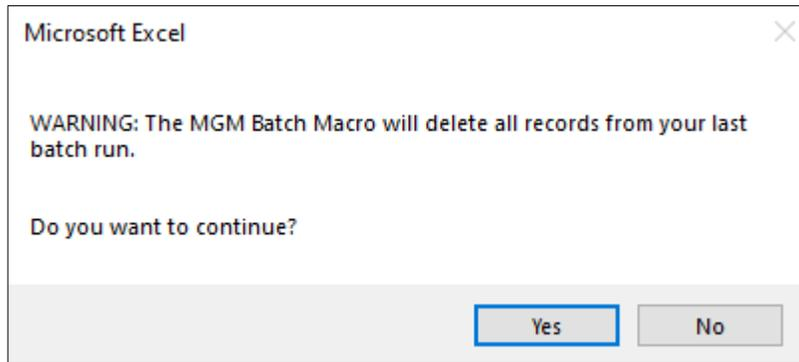
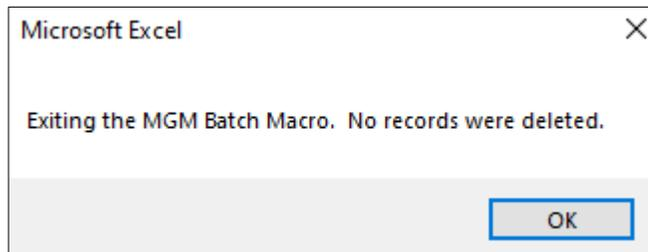

Figure 8. Batch Macro warning message.
Figure 9. Exiting the Batch Macro.
13. The Batch Macro displays a warning message before deleting all pre-existing MGM records from your last batch run (Figure 8). Click “Yes” to start the Batch Macro and delete all pre-existing MGM records. Otherwise, click “No” to exit the Batch Macro (Figure 8). No MGM records will be deleted if you exit the Batch Macro (Figure 9).